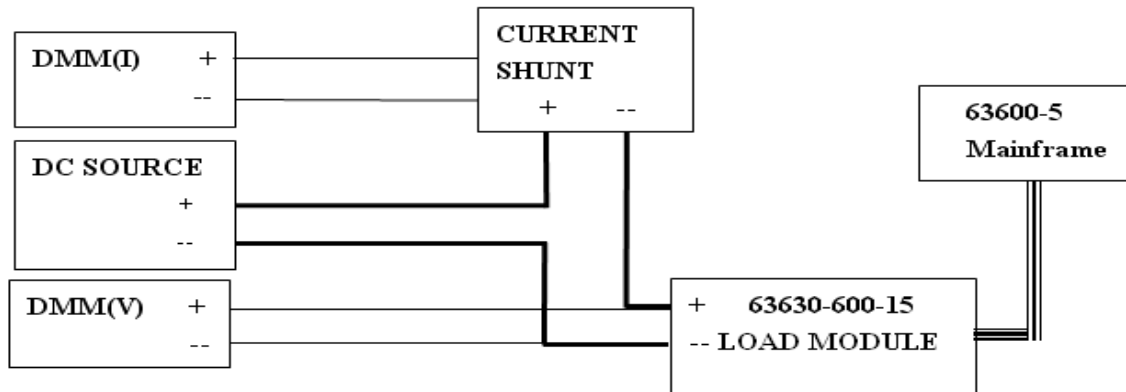

Figure 7-1
- Connect the Load module, DC source, DMM, and current shunt, as shown in Figure 7-1. Use DMM (V) to measure the voltage passing through the module's input terminal. Be careful in making connections so that contact resistance voltage drop will not affect the readings.
- Connect the load module, DC Source, DMM, and Current Shunt, as shown in Figure 7-1. Use DMM (W) to measure the voltage passing through the module's input terminal. Be careful in making connections so that contact resistance voltage drop will not affect the readings.
1.6W	40V/0.5A	3.5248W	0W	DMM (W)± 0.6416W
- Connect the load module, DC Source, DMM, and Current Shunt, as shown in Figure 7-1. Use the DMM (W) to measure the voltage passing through the module's input terminal. Be careful in making connections so that any contact resistance voltage drop will not affect the readings.